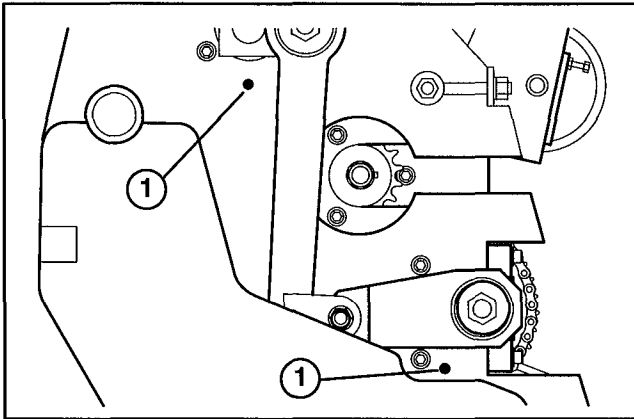

Figure 43
1. Locate the four (4) timing holes, two (2) on each side of coring head and on crank sprockets (Fig. 43).
2. To check the timing you will need the (4) timing rods, included with unit.
3. Rotate the coring assembly by hand, aligning each of the (4) timing holes so that the timing rods can be inserted through coring head and sprocket.